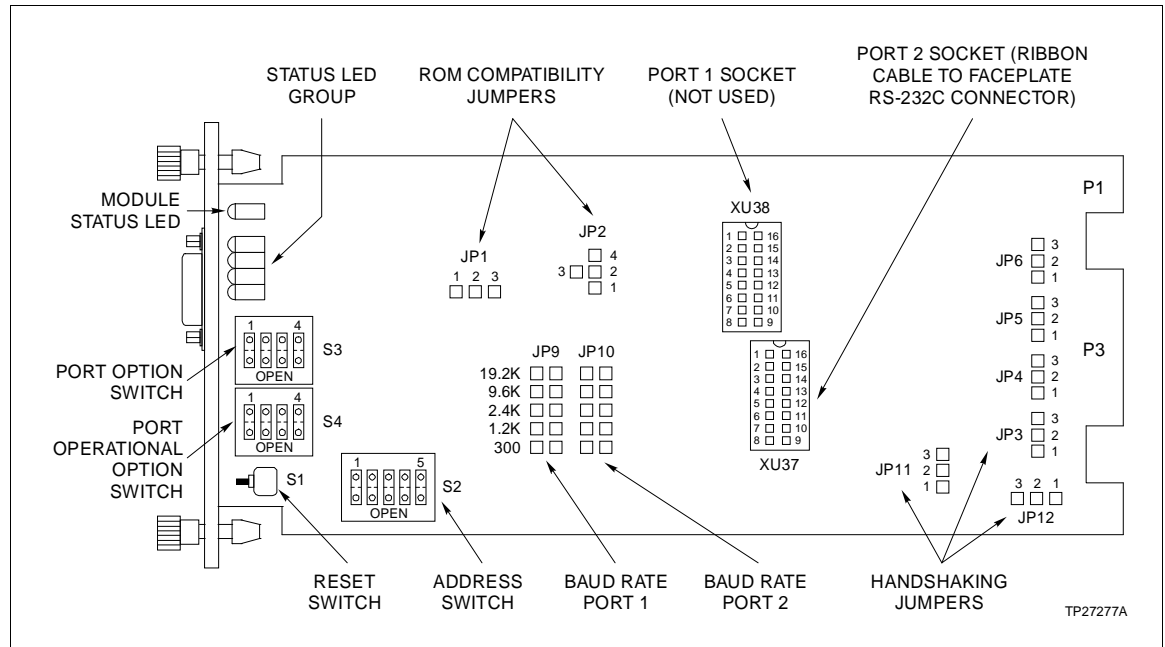

Figure 3-1. Serial Port Module Component Locations
The module address is set by positioning the five dipswitches on S2; Figure 3-1 shows the location of S2. Table 3-1 is a binary address conversion table for setting S2.
The port option switch (S3) sets the byte framing and parity for both serial ports. Byte framing can be set to seven or eight data bits and one or two stop bits. Parity can be set to odd, even or none. Table 3-2 shows the port options and the corresponding switch settings. Figure 3-1 shows the location of this switch.
The port operational option switch (S4) sets normal operational options and test mode options for both serial ports. When operating with Bailey Controls software and equipment, the normal position for the four S4 dipswitch positions is CLOSED (ON). Table 3-3 lists the options that can be set with S4. Figure 3-1 shows the location of S4.
jumpers across pins 1 and 2 of JP3 and JP5. Figure 3-1 shows the location of JP3 and JP5.
If port 1 (diagnostic port) is not used, a jumper is not required for JP4. Figure 3-1 shows the location of JP4 and JP6.
Jumpers JP9 and JP10 set the RS-232C serial port output baud rate: JP9 for port 1 and JP10 for port 2. To select a baud rate, place a jumper across the pins next to the desired rate for each port. Figure 3-1 shows the location of jumpers JP9 and JP10, and provides a cross reference for jumper to baud rate selection. When the SPM is used with a Bailey Controls work station, set the baud rate at 9.6 Kbaud. Refer to the product instruction for the computer system you are using for the required baud rate setting.